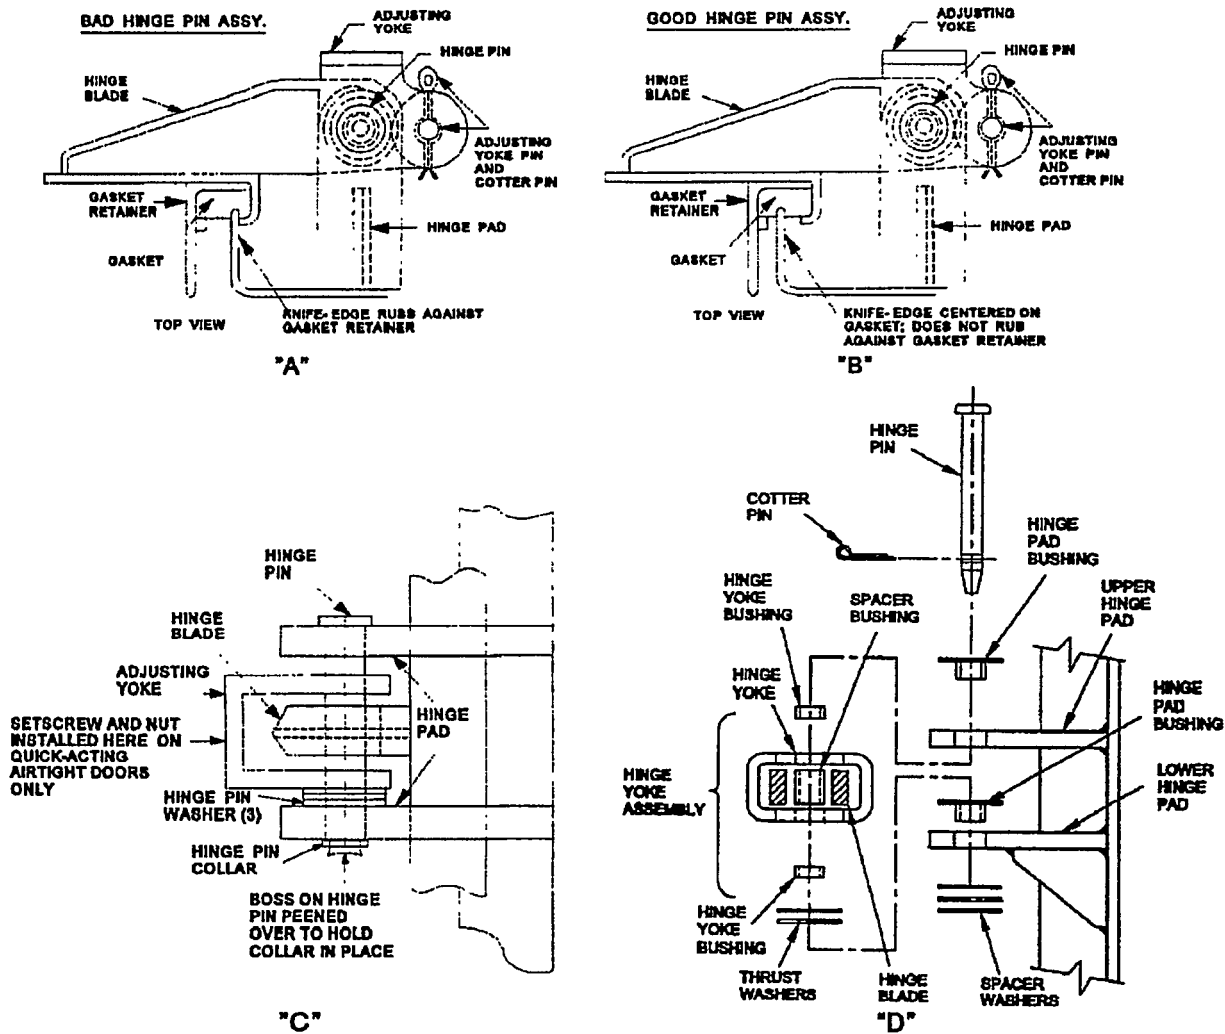

Figure 600-2.43. Hinge Pin Assemblies
600-2.3.3.6 Hinge Inspection. Visually inspect the hinge sleeves and hinge pins (on doors without Machinery Alteration (MACHALT) 167-31006 Engineering Change Proposal (ECP) 518 or MACHALT 167-31011 (ECP-538) installed) for wear. Visually inspect the hinge pad bushings, hinge yoke bushings, spacer bushing, and hinge pin (on doors with MACHALT 167-31006 (ECP-518) or MACHALT 167-31011 (ECP-538) installed) for wear. With the door opened, grasp the door from the hand lever side and push it toward the hinged side. The door should not give more than approximately 3/16 inch. If it does, either the hinge pins and/or washers are worn, or the holes for the hinge pins have become enlarged. Do not confuse hinge pin wear with normal play in the hinge blades. Another indication of hinge pin wear is if the metal channel surrounding the gasket on the door side is rubbing against the knife- edge, or if the door panel rubs one or more side dogs when opening or closing. (See figure 600-2.43, "A") A good hinge and alignment are illustrated in figure 600-2.43, "B.". Replace the hinge pin washers and/or pins (on doors without MACHALT 167-3 1006 (ECP-518) or MACHALT 167-31011 (ECP-538) installed), or replace the hinge pad bushings, hinge yoke assembly, thrust washers, yoke pin spacer, and hinge pin (on doors with MACHALT 167-31006 (ECP-518) or MACHALT 167-31011 (ECP-538) installed), if any of the following conditions exist:
- d. The hinge pin washers (on doors without MACHALT 167-31006 (ECP-518) or MACHALT 167-31011 (ECP-538) installed) are worn thin to approximately 1/32 inch. New washers are 1/16 inch in thickness. See figure 600-2.43, "C". The thrust washers or the flange on the hinge pad bushings (on doors without MACHALT 167-31006 (ECP-518) or MACHALT 167-31011 (ECP-538) installed) are worn thin to approximately 1/32 inch. New thrust washers and the flange on new hinge pad bushings are 1/16 inch in thickness. See figure 600-2.43, "D".